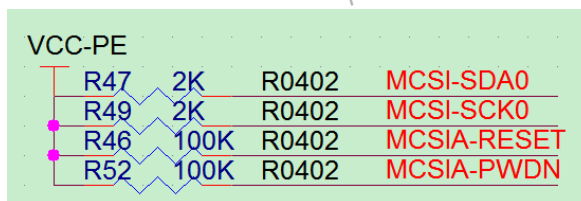

Figure 2-62 I2C Design of Camera
- The CAMERA I2C must be connected to pull-up resistors and cannot be shared with other devices. The I2C address of the front and rear cameras should be different to avoid communication conflict. As shown in Figure 2-62.